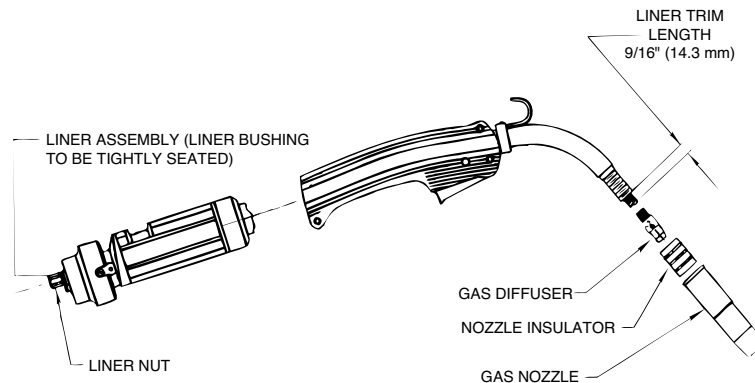

Figure E.1
- Be sure the cable is straight and then trim the liner to the length shown in Figure E.1 (a gauge is included on the wrench provided with the connection kit for gauging the cut-off length. Remove any burrs from the end of the liner.